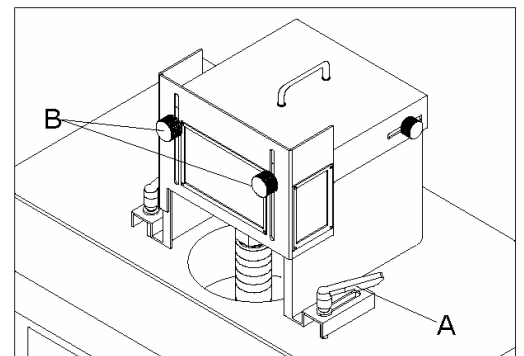
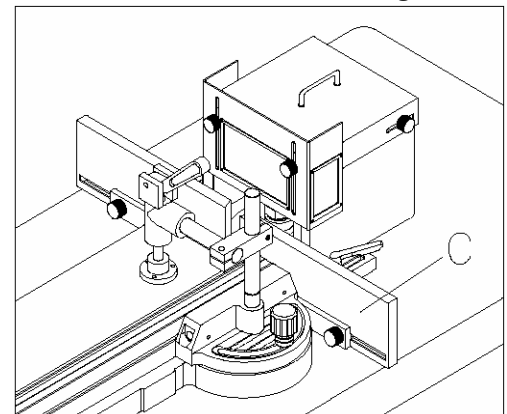

Fig. 3.43
Fig. 3.44
1. Lean the hood on the table, regulate the distance from the cutters and secure the position by tightening the locking levers (A) Fig.3.43, Fig.3.44.
2. Regulate the height of the protection in respect of the cutters by turning the knobs (B)
3. Fences (C) Fig 3-44 shall always be used for tenoning work cutting to provide adequate guiding workpiece.